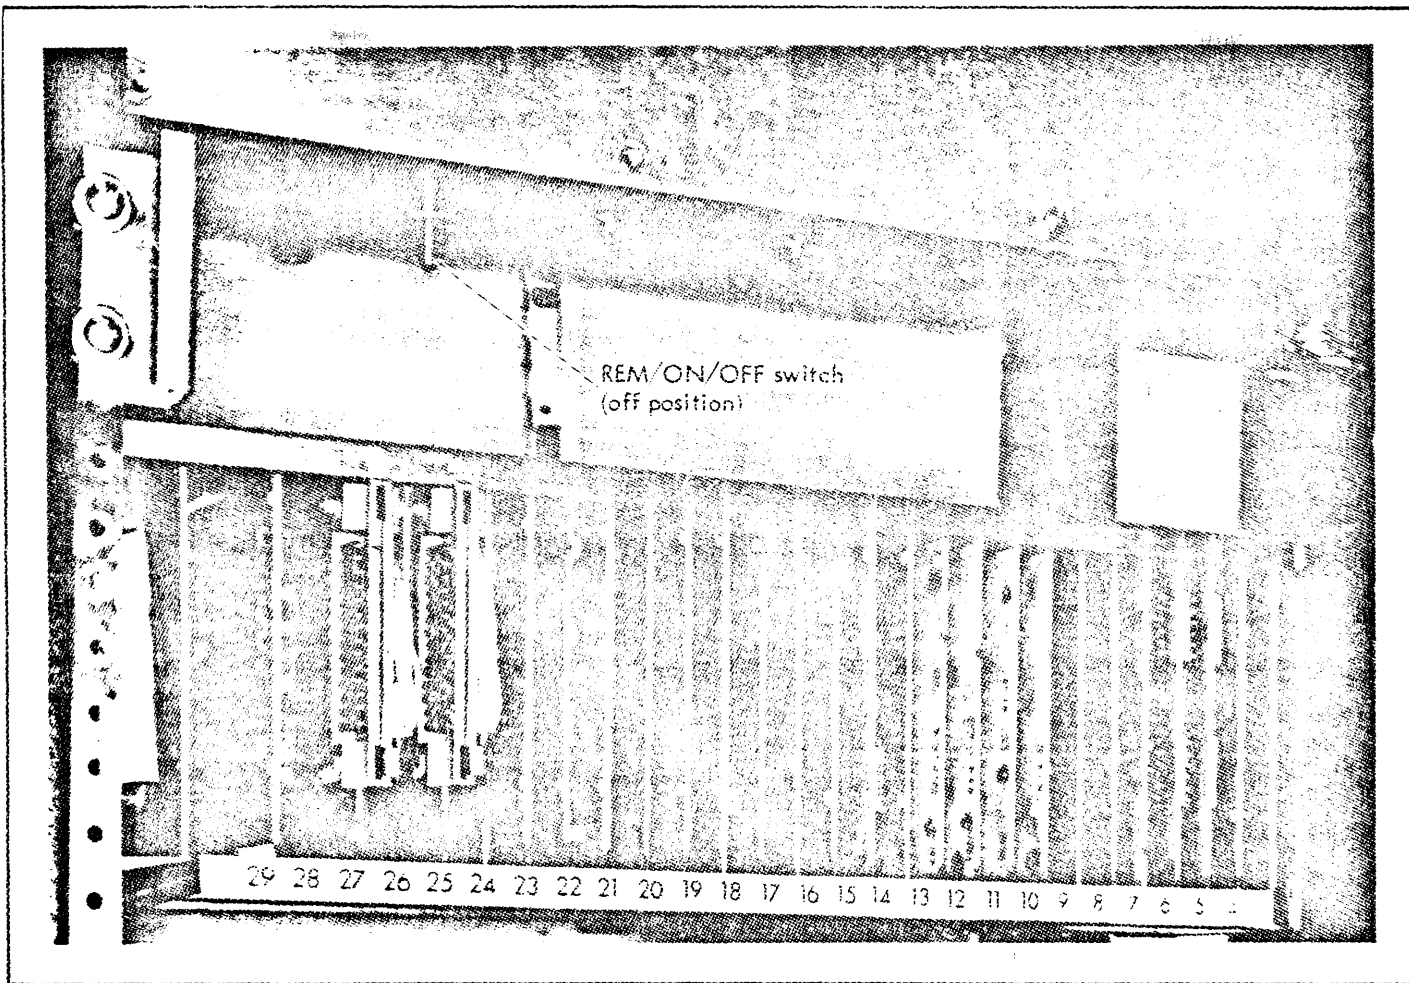

Figure 16. Power Distribution Panel
1. Set the REM/ON/OFF switch on the Power Distribution Panel to ON (see Figure 16) in order to turn on the a. c. power to the system. The Power Distribution Panel is inside the equipment cabinet, above the multiple-drive selection unit.
3. Set the REM/ON/OFF switch on the Power Distribution Panel to OFF (see Figure 16) in order to turn off the a.c. power to the system. The Power Distribution Panel is inside the equipment cabinet, above the multiple-drive selection unit.